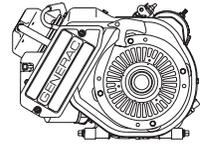

Figure 12.10 — Location of Oil Pump Drive Pins
11. Install the oil pump outer rotor onto the two drive pins at the of the camshaft (see Figure 12.10, next page).